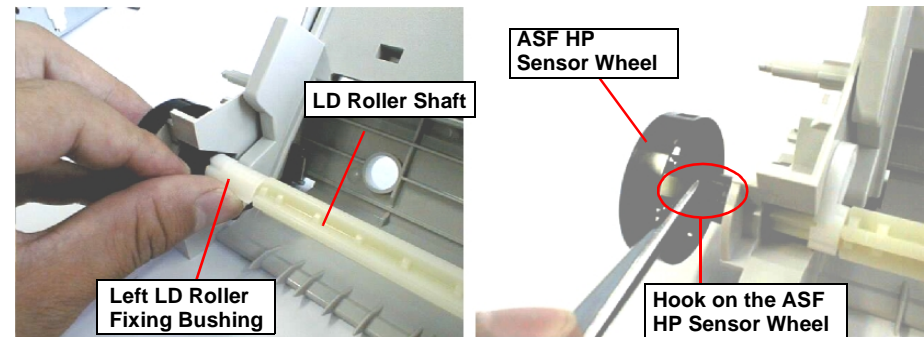

Figure 4-25. Removing the LD Roller Fixing Bushing & ASF HP Wheel
- 3) Move the left Paper Feed Roller Assembly to the center and remove the Left LD Roller Fixing Bushing (white plastic) attached to the left edge of LD Roller Shaft. Refer to Figure 4-25.
- 4) Slide the LD roller shaft to the left side and remove the ASF HP Detector Wheel after releasing its hook. Refer to Figure 4-25.